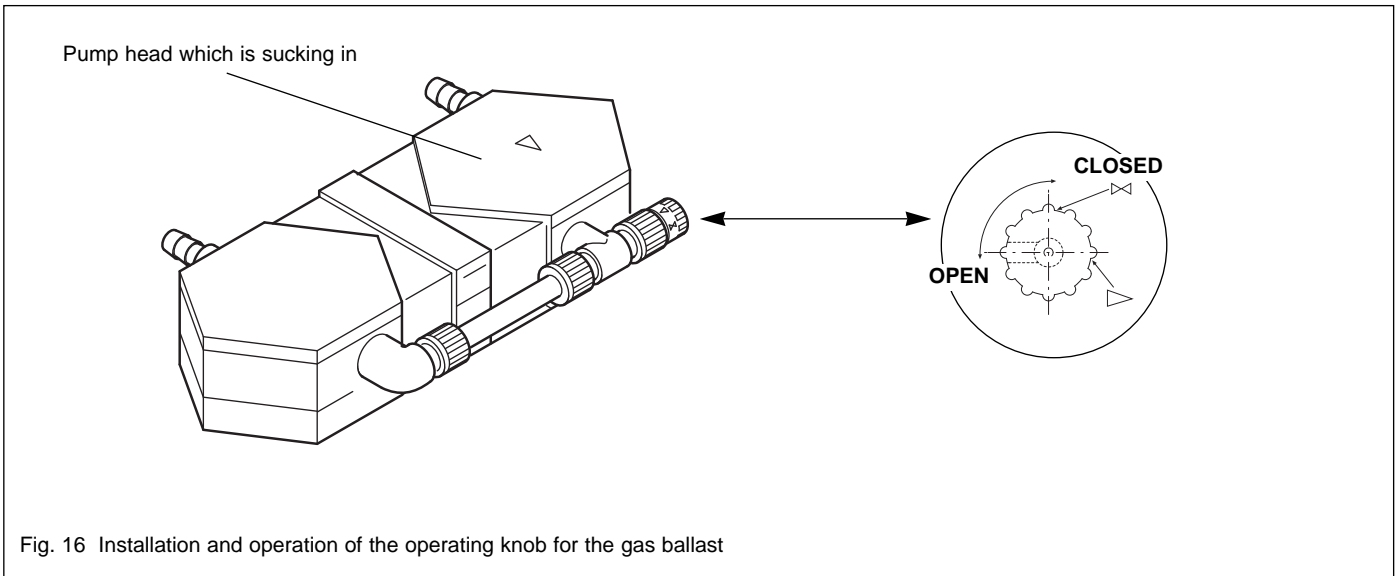

Fig. 16 Installation and operation of the operating knob for the gas ballast
- Open the circuit between the pump heads (see Fig. 16).
- Unscrew the connection piece at the intaking pumping head (see Fig. 16).